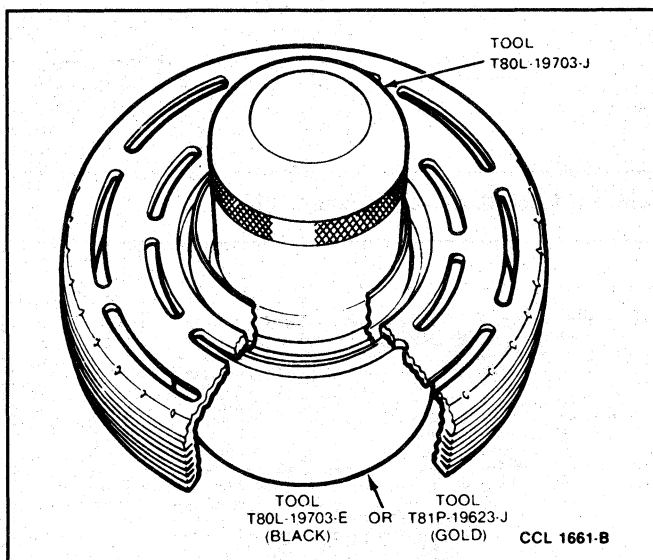

FIG. 10 Clutch Pulley Bearing—Removal
2. Position largest opening of Pulley Support T80L-19703-E or equivalent over the hub of the pulley to support the pulley. Drive bearing from pulley with Pulley Replacer T80L-19703-J or equivalent (Fig. 10).